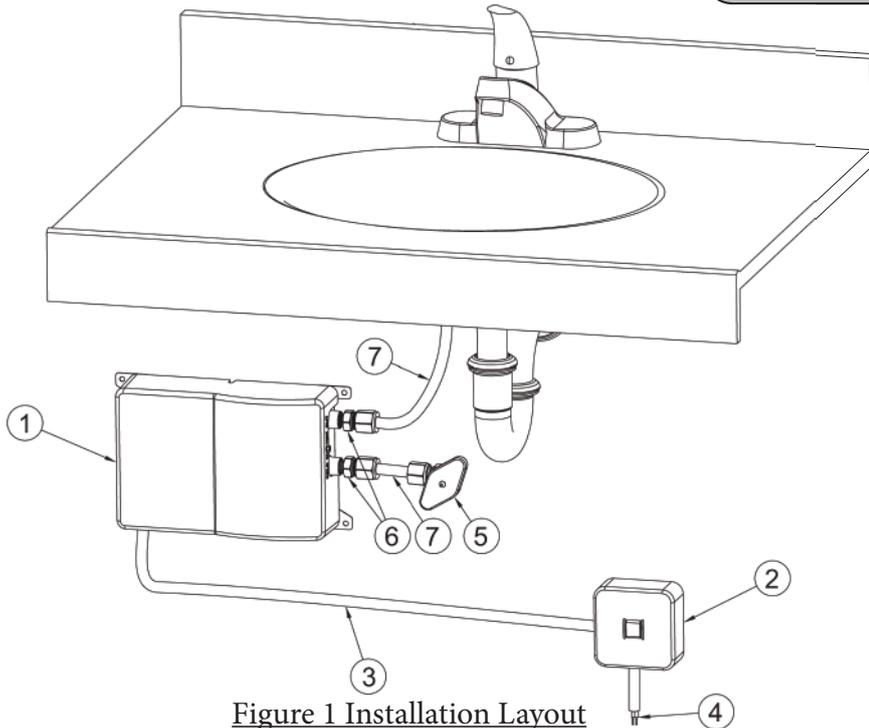

Figure 1 Installation Layout
3. Mount unit horizontally against the wall so the silver label reads correctly (See Figure 1). Use level to ensure unit is level and mount with two screws through the flanges located on each corner using wall anchors or fasteners.
4. Connect plumbing. Use hose with thread at cold water inlet and hot water outlet to faucet inlet connections (See Figure 1).